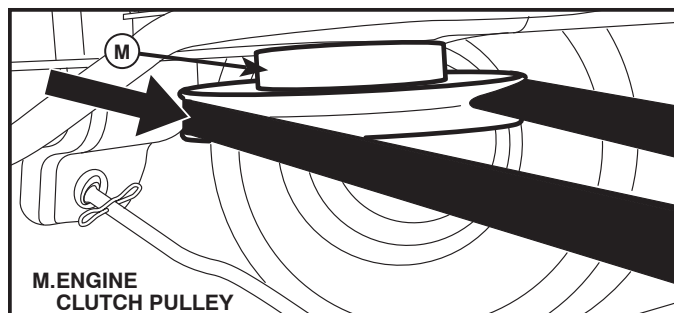

Fig. 15
9 INSTALL BELT ON ENGINE CLUTCH PULLEY (M) (See Fig. 15)
- Disengage belt tension rod (K) from locking bracket (L).
- Install belt onto engine clutch pulley (M).